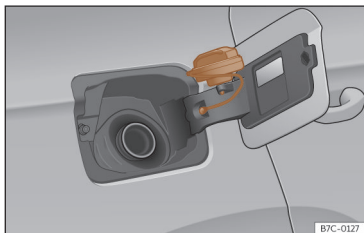

Fig. 190 Fuel tank flap with tank cap attached.
- Place it in the space on the hinge of the open flap»» Fig. 190 .